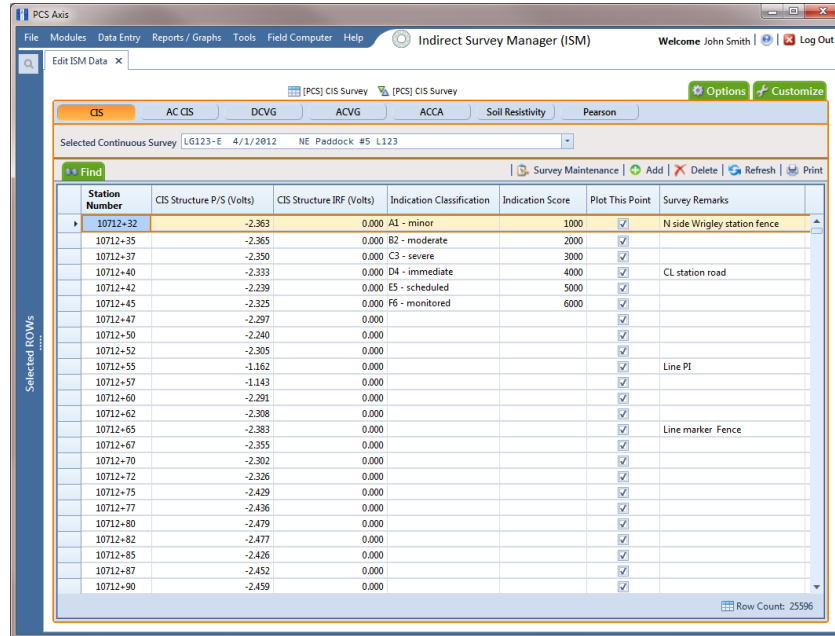

Figure 7-75. Edit ISM Data
- 3 Open the ISM data entry grid. Click **Data Entry > Edit ISM Data**. Then click a button labeled with the type of continuous survey you want to work with, such as the **CIS** button  (Figure 7-75).